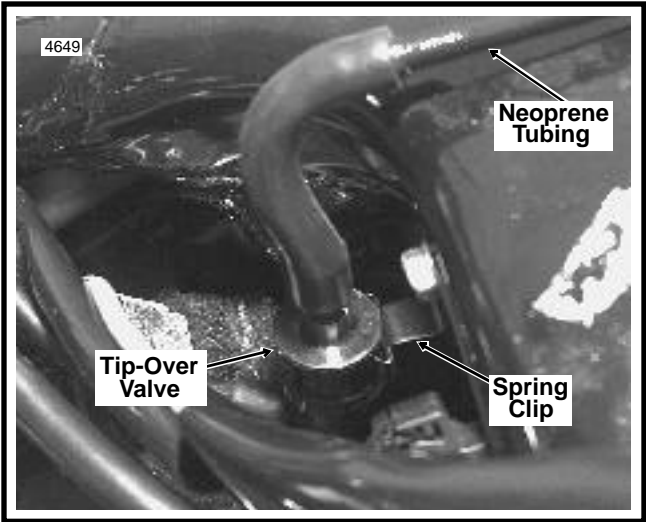

Figure 1. Release Fuel Tank Tip-Over Valve
- Release fuel tank tip-over valve from spring clip on frame bracket (in front of battery compartment, see Figure1).
17. Attach fuel tank tip-over valve to spring clip on frame bracket (see Figure 1).